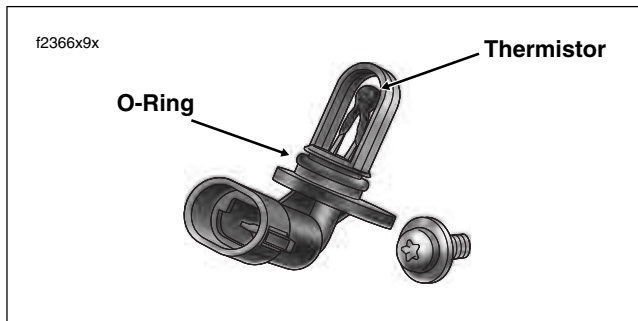

Figure 9-31. IAT Sensor
1. Inspect O-ring in groove of IAT sensor for cuts, tears or signs of deterioration. Install **new** O-ring if necessary. See Figure 9-31.